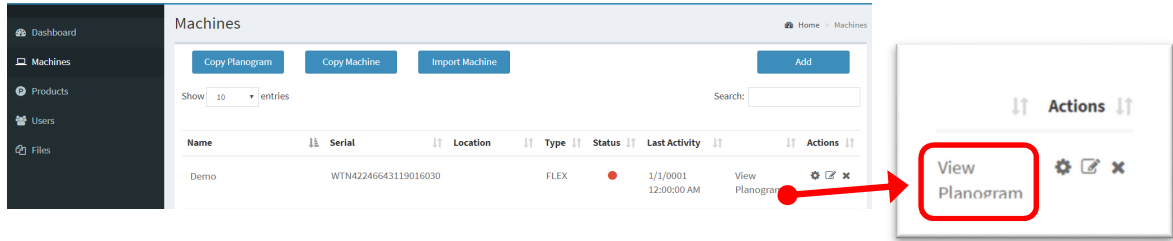
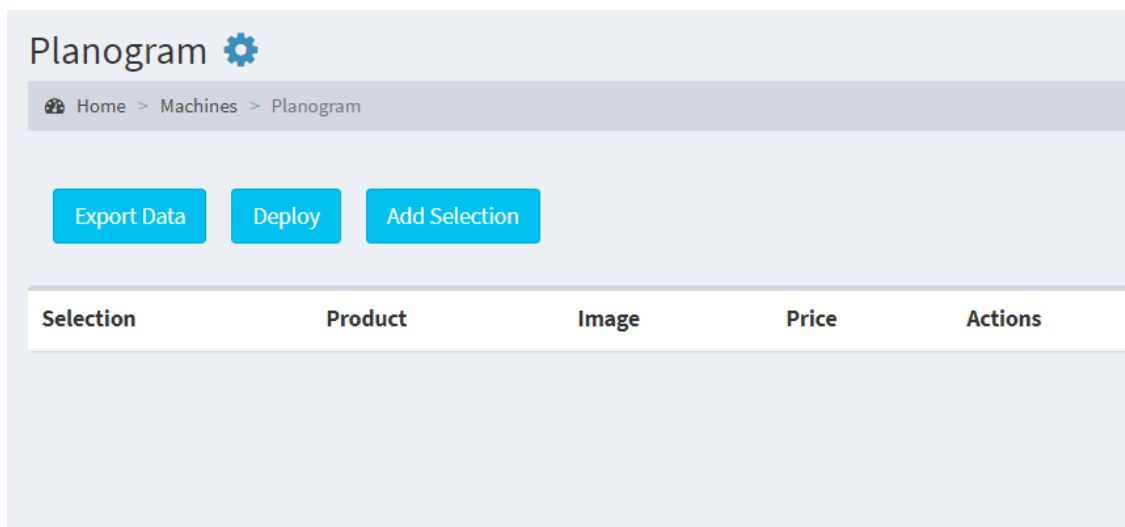

Figure 36
Figure 39
- From the main menu select **Files** and then select the **Products** tab (figure 36).
- To view your planogram, click on the Machines menu and find your machine, then click on the **“View Planogram”** text shown in *(figure 36)*.
- In this section you will learn how to create a planogram without using a template. As you may recall in the previous section on the New Machine screen under the **Machine** tab you had an option to select a template to use. If you chose the **Blank** option, your machine planogram should be empty. So when you are on the Machines section and click the **View Planogram** text as in (*figure 36*), your Planogram will be empty as shown in (*figure 39*).